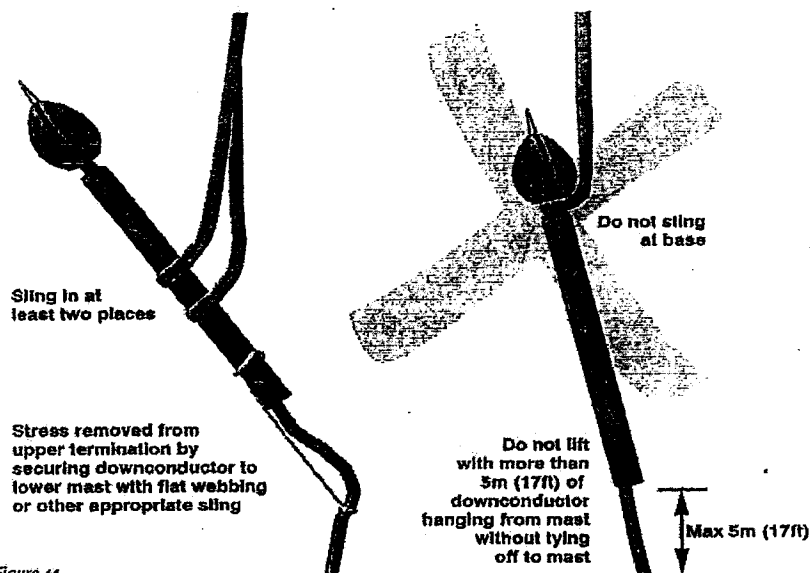

Figure 41.
- When lifting the mast, ensure that the slings or ropes cannot damage the Stormaster ESE terminal, see Figure 41.